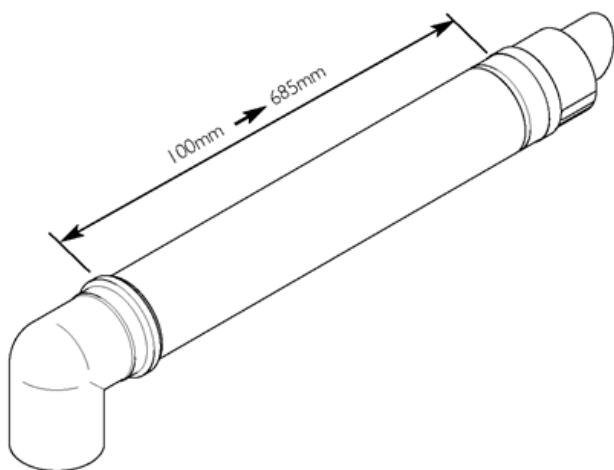
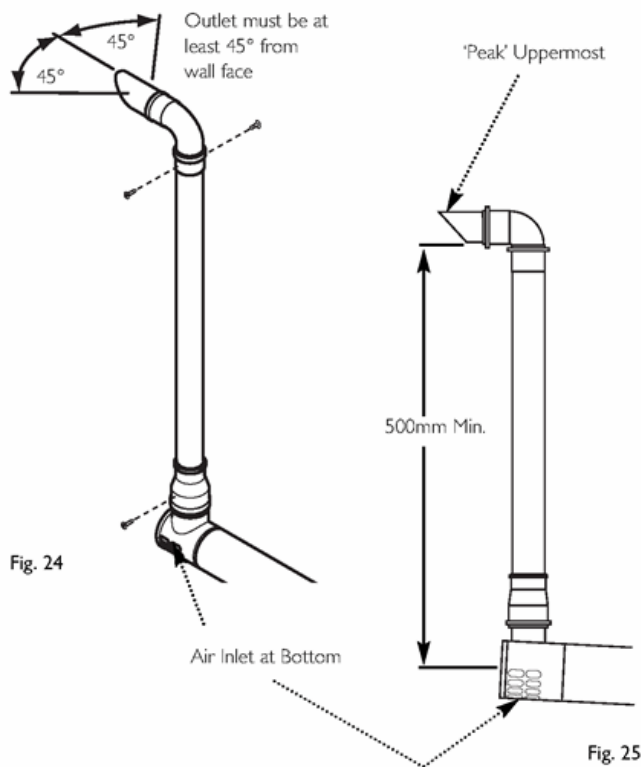

Fig. 19
Fig. 24 & Fig. 25
The standard horizontal flue kit allows for flue lengths between 100mm and 685mm from elbow to terminal (Fig. 19).
3. The plume outlet must always be at least 45° to the wall, with the 'peak' uppermost to prevent rain entry (Figs. 24 & 25), and be at least 2 metres above ground level. It must be secured as shown in Fig. 19. The plume outlet must also be at least 500mm from the air inlet in any direction (Fig. 25).